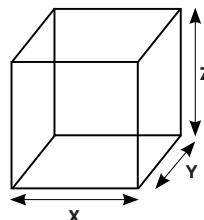

Figure 3
To calculate the room size multiply the height (Z) by the width (X) and the length (Y) in feet to get the cubic volume of your sauna room like shown (see **Fig. 3**). Every square foot of uninsulated material (etc. glass) adds 1.5 cubic feet to room volume.